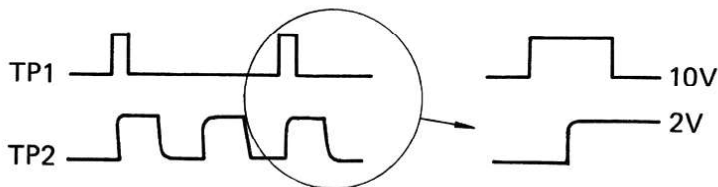

Fig. 9-4
3. Adjust VR1 and VR2 of the control assembly so that the rising edge of the waveform on TP3 lies inside the square waveform on TP4 as shown in Fig. 9-4.